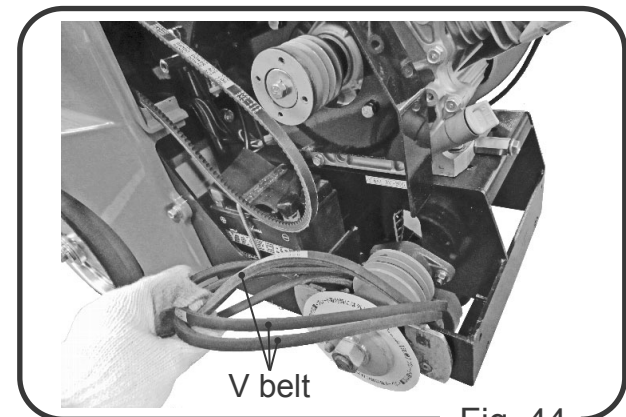

Fig. 44
5. Once the engine moves forward, the tension of the belt gets decreases. Remove the V belt. (Fig. 44)